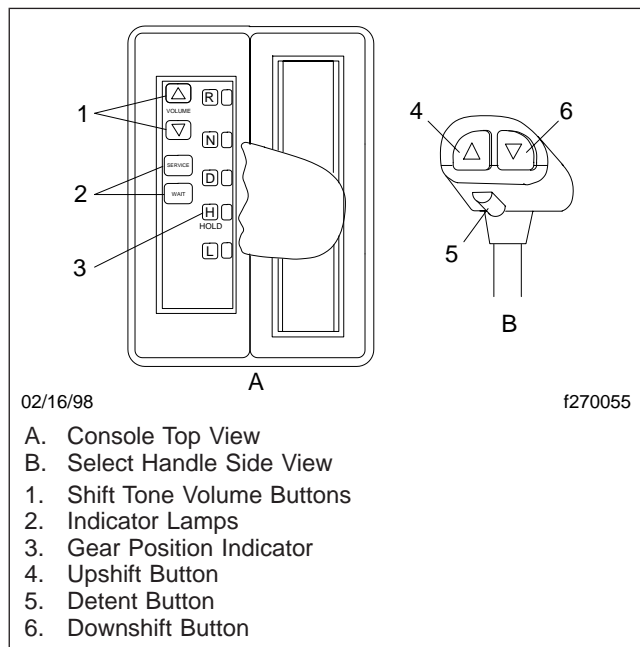

Fig. 5.11, Driver Command Console (DCC)
When conditions are right for a shift, the transmission Electronic Control Unit (ECU) notifies the driver with a tone from the Driver Command Console (DCC). See Fig. 5.11. The driver, when ready to shift, breaks torque and the transmission goes to neutral. The driver then either increases or decreases engine speed to synchronize the shift. When engine speed is correct, the transmission shifts automatically.
- The Driver Command Console, or DCC (Fig. 5.11), replaces the shift lever and controls the transmission's shift patterns. There are indicators
2. Select either LO or HI reverse by depressing either the downshift or upshift button (**Fig. 5.11**) on the gear select handle.